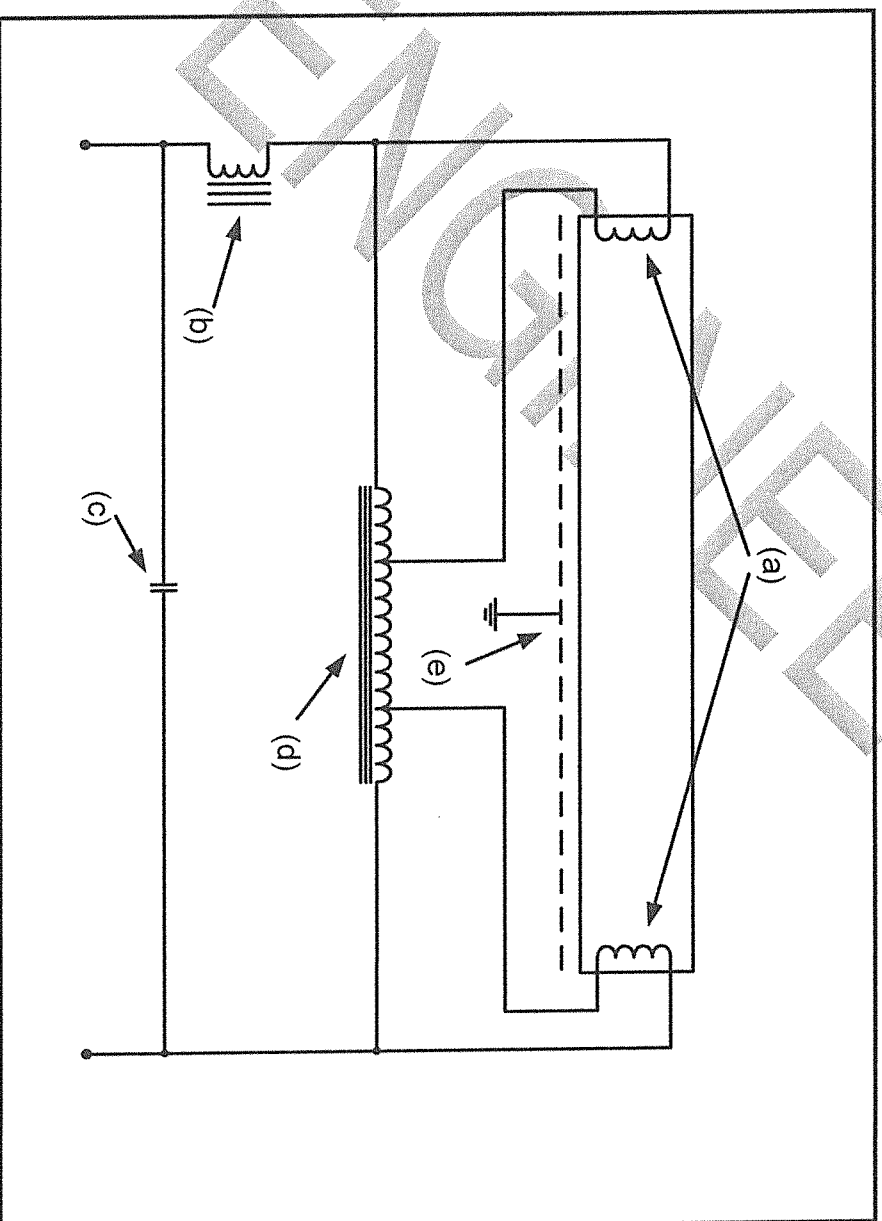

FIGURE 2.1: LIGHT FITTING
- 3.4 Study the circuit below in **FIGURE 2.1**. Label the parts numbered (a) – (e) in your answer script.